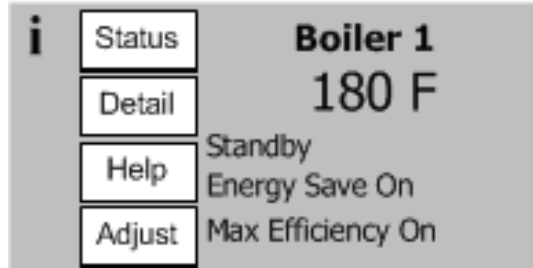
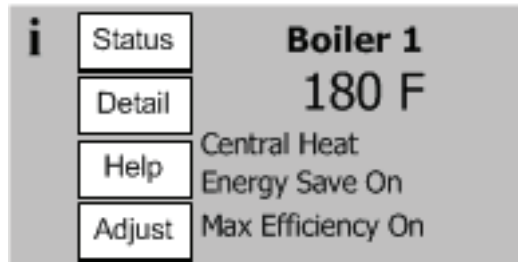

Figure 11.1a: Home Screen at Power-Up (No Call for Heat)
Figure 11.1b: Home Screen on Heat Demand
- 11) Start the boiler using the operating instructions on page 97. With the boiler powered up, and with no call for heat, the display should look like Figure 11.1a. Once a call for heat is present, it will look like Figure 11.1b.